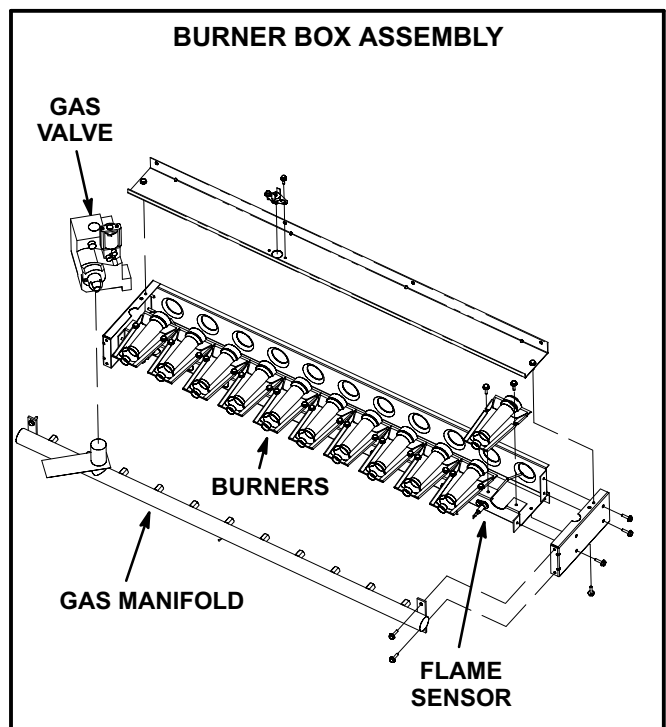

FIGURE 22
- 3- Remove two screws securing burners to burner support and lift the burners from the orifices. See figure 22. Clean as necessary.